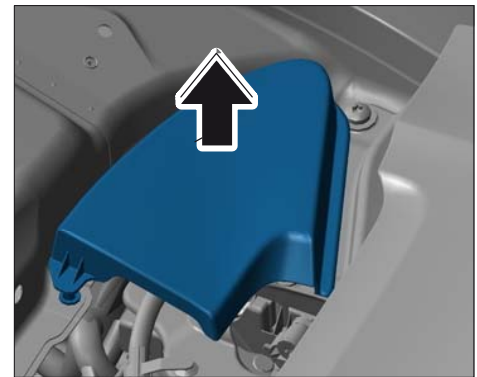

Figure 9
- 15 Unclip inner cover at the right in an upward direction and disengage emergency release cable ⇒ *Figure 9 -arrow-*.